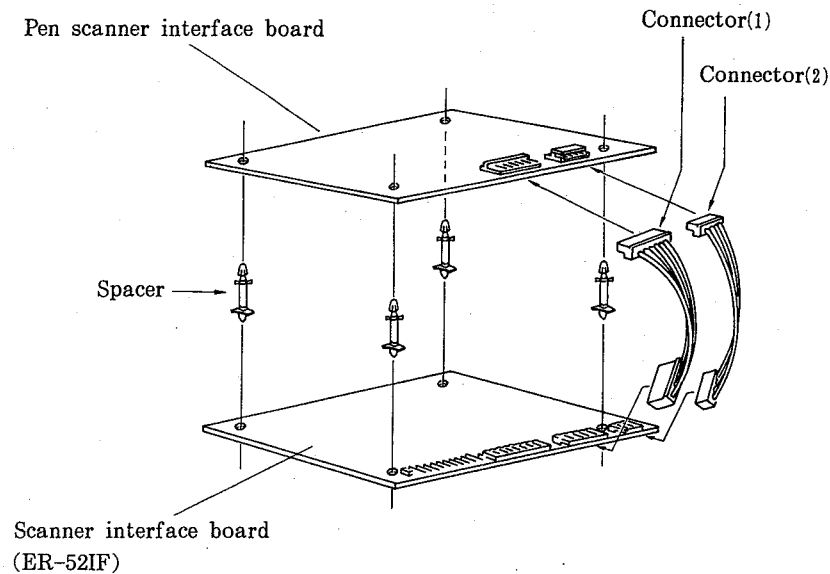

Fig. 51
- (1) For safety, unplug the ER-6750.
- (2) Remove the rear cover. (See page 38.)
- (3) Attach the spacers (4 pcs.) to the scanner interface board (ER-52IF). (See Fig.51.)
- (4) Attach the pen scanner interface board (ER-67PN) to the spacers of the scanner interface board, and connect the connectors (1) and (2). (See Fig.51 above.)
- (5) Connect the scanner interface board onto the application board.